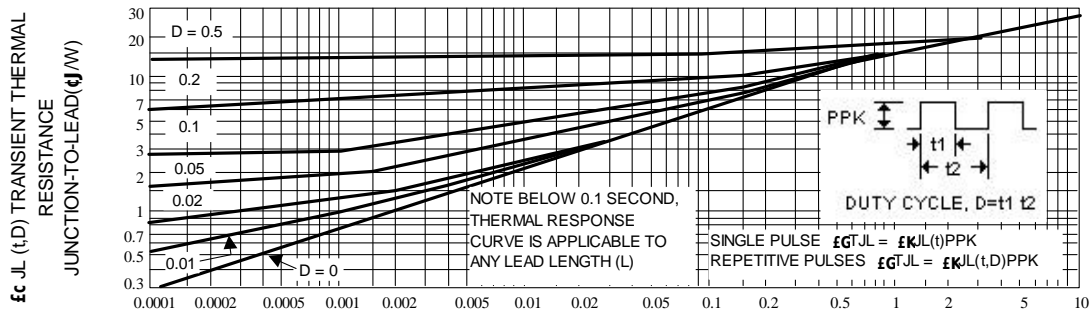
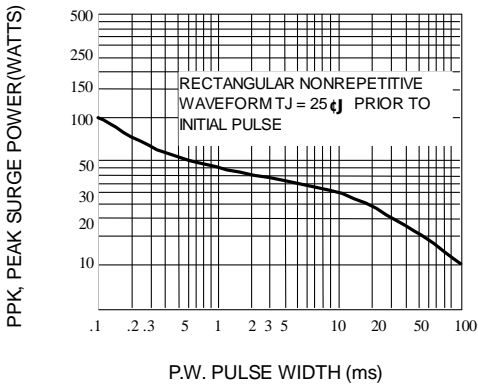
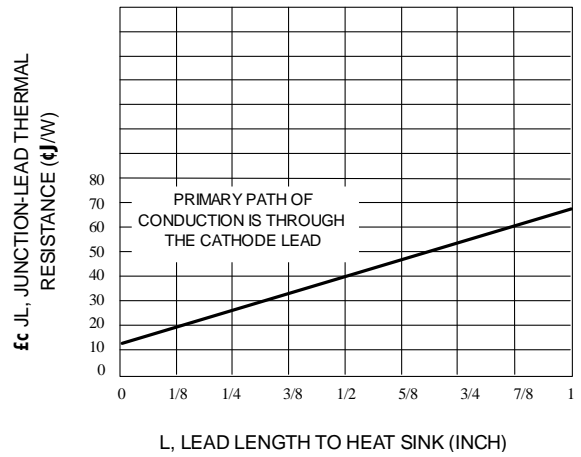

Fig. 2-TYPICAL THERMAL RESPONSE L,
Fig. 3-MAXIMUM SURGE POWER
Fig. 10-TYPICAL THERMAL RESISTANCE
4. SURGE CURRENT (I_r) NON-REPETITIVE - The rating listed in the electrical characteristics table is maximum peak, non-repetitive, reverse surge current of 1/2 square wave or equivalent sine wave pulse of 1/120 second duration superimposed on the test current, I_{ZT}, per JEDEC standards, however, actual device capability is as described in Figure 3.
θ_{JL} is the increase in junction temperature above the lead temperature and may be found from Figure 2 for a train of power pulses or from Figure 10 for dc power.
Data of Figure 2 should not be used to compute surge capability. Surge limitations are given in Figure 3. They are lower than would be expected by considering only junction temperature, as current crowding effects cause temperatures to be extremely high in small spots resulting in device degradation should the limits of Figure 3 be exceeded.